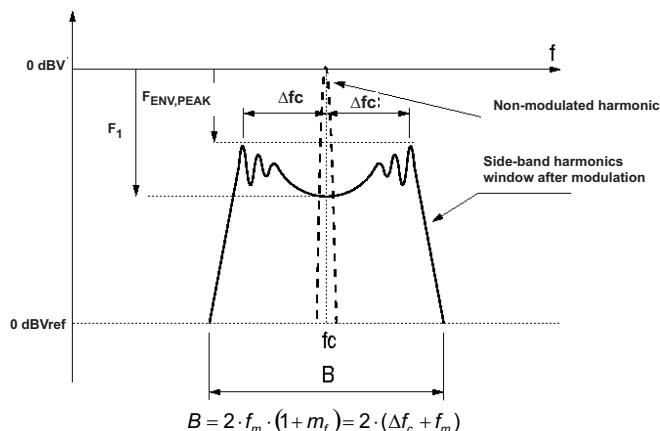
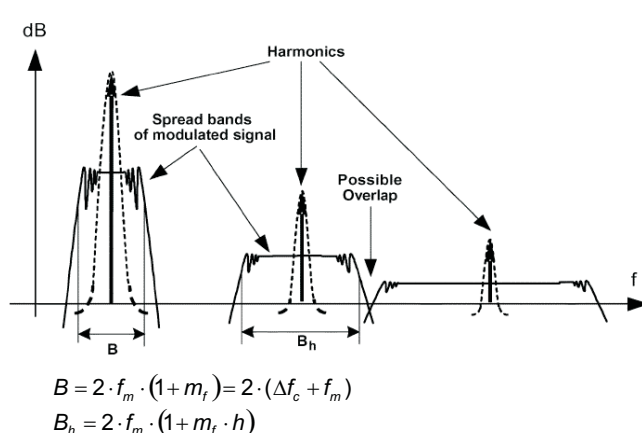

Figure 8. Spectrum Of A Frequency Modulated Sin. Wave With Sinusoidal Variation In Time
Figure 9. Spread Bands Of Harmonics In Modulated Square Signals ⁽¹⁾
Figure 8 and Figure 9 show that after modulation the sideband harmonic is attenuated when compared to the non-modulated harmonic, and when the harmonic energy is spread into a certain frequency band. The higher the modulation index (mf) the larger the attenuation.
(1) Spectrum illustrations and formulae (Figure 8 and Figure 9) copyright *IEEE TRANSACTIONS ON ELECTROMAGNETIC COMPATIBILITY, VOL. 47, NO.3, AUGUST 2005*. See References Section for full citation.